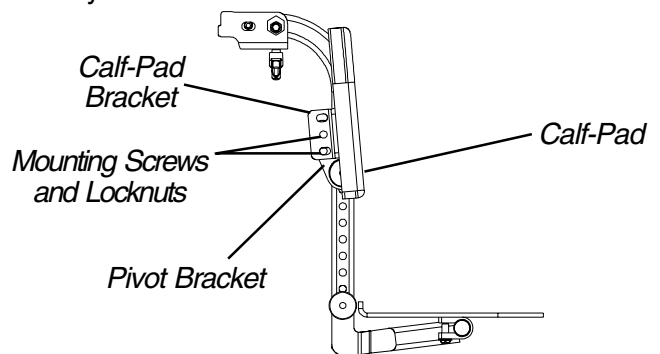

FIGURE 19 - ADJUSTING THE CALF-PAD ANGLE
3. Tighten the two (2) phillips head screws and washers that secure the calf-pads to the calf-pad bracket.
**Adjusting the Calf Pad Angle (FIGURE 19)**
1. Loosen, DO NOT remove, the two (2) mounting screws and locknuts that secure the calf-pad bracket to the pivot bracket.
3. Securely tighten the two (2) mounting screws and locknuts that secure the calf-pad bracket to the calf bracket.